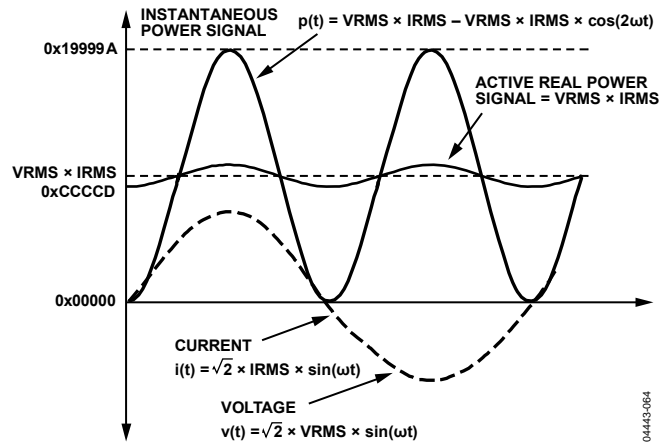
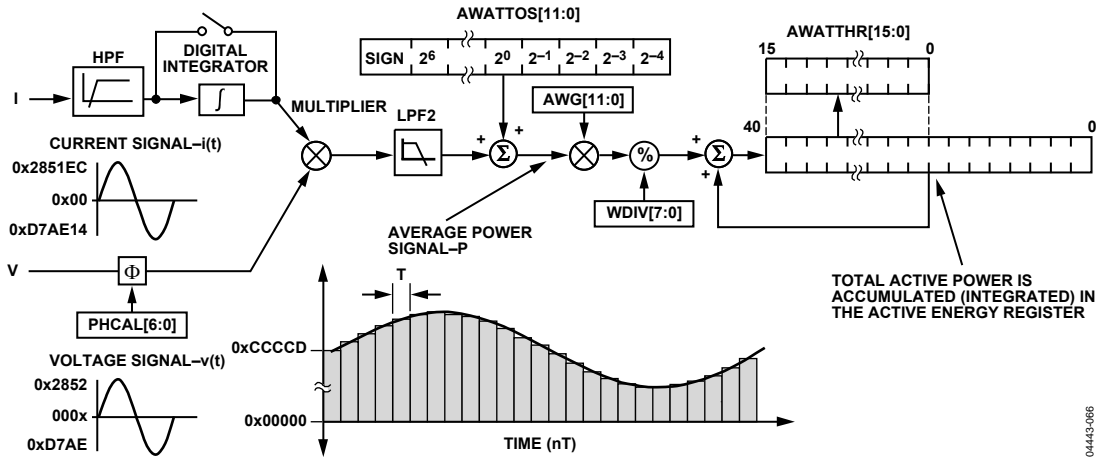

Figure 65. Active Power Calculation
Figure 67. ADE7758 Active Energy Accumulation
The instantaneous power signal p(t) is generated by multiplying the current and voltage signals in each phase. The dc component of the instantaneous power signal in each phase (A, B, and C) is then extracted by LPF2 (the low-pass filter) to obtain the average active power information on each phase. Figure 65 shows this process. The active power of each phase accumulates in the corresponding 16-bit watt-hour register (AWATTHR, BWATTHR, or CWATTHR). The input to each active energy register can be changed depending on the accumulation mode setting (see Table 22).
Figure 67 shows a signal path of this energy accumulation. The average active power signal is continuously added to the internal active energy register. This addition is a signed operation. Negative energy is subtracted from the active energy register. Note the values shown in Figure 67 are the nominal full-scale values, that is, the voltage and current inputs at the corresponding phase are at their full-scale input level. The average active power is divided by the content of the watt divider register before it is added to the corresponding watt-hr accumulation registers. When the value in the WDIV[7:0] register is 0 or 1, active power is accumulated without division. WDIV is an 8-bit unsigned register that is useful to lengthen the time it takes before the watt-hr accumulation registers overflow.
Note that the active energy register content can roll over to full-scale negative (0x8000) and continue increasing in value when the active power is positive (see Figure 67). Conversely, if the active power is negative, the energy register would under flow to full-scale positive (0x7FFF) and continue decreasing in value.
The discrete time sample period (T) for the accumulation register is 0.4 μs (4/CLKIN). With full-scale sinusoidal signals on the analog inputs and the watt gain registers set to 0x000, the average word value from each LPF2 is 0xCCCCD (see Figure 65 and Figure 67). The maximum value that can be stored in the watt-hr accumulation register before it overflows is 215 – 1 or 0x7FFF. Because the average word value is added to the internal register, which can store 240 – 1 or 0xFF, FFFF, FFFF before it overflows, the integration time under these conditions with WDIV = 0 is calculated as